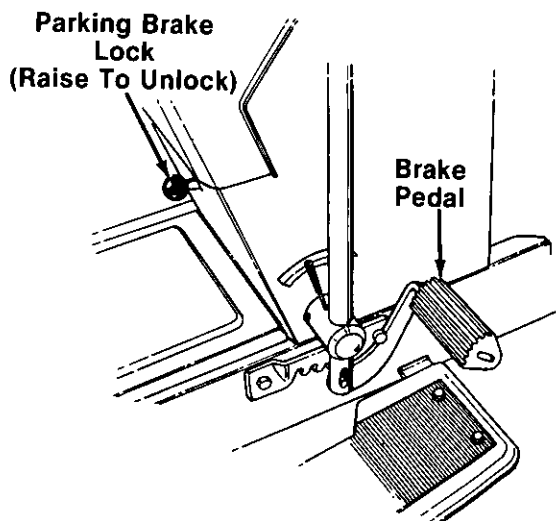

FIGURE 9.
1. Release the parking brake. See figure 9. Move the throttle lever to the position where the engine operates best for the load to be handled.